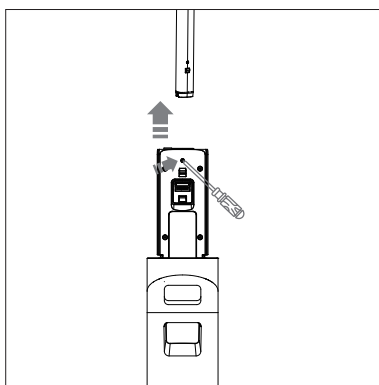

Fig. 29 – Removing the handle
- ▶ Use a suitable tool (e.g. a screwdriver) to press into the small opening below the handle and pull the handle upwards to remove it (see Fig. 29).